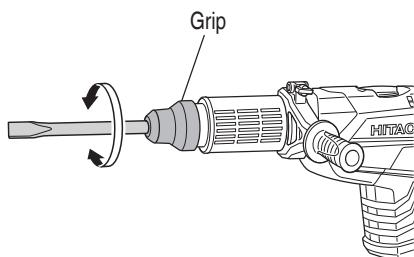

Fig. 10
- Turn the grip or the tool as illustrated in Fig. 10 and fix the tool to the desired working direction.